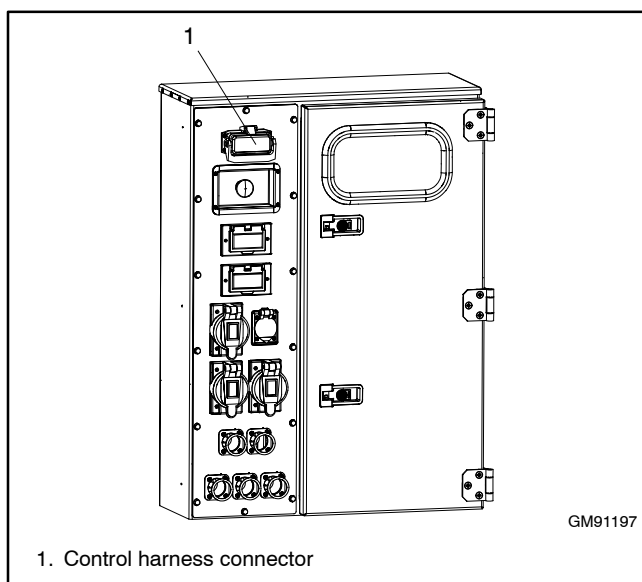

Figure 1-1 Control Harness Connector
- Must have the control harness connector shown in Figure 1-1. Install the retrofit kit, if necessary. See Figure 1-2 for kit numbers.